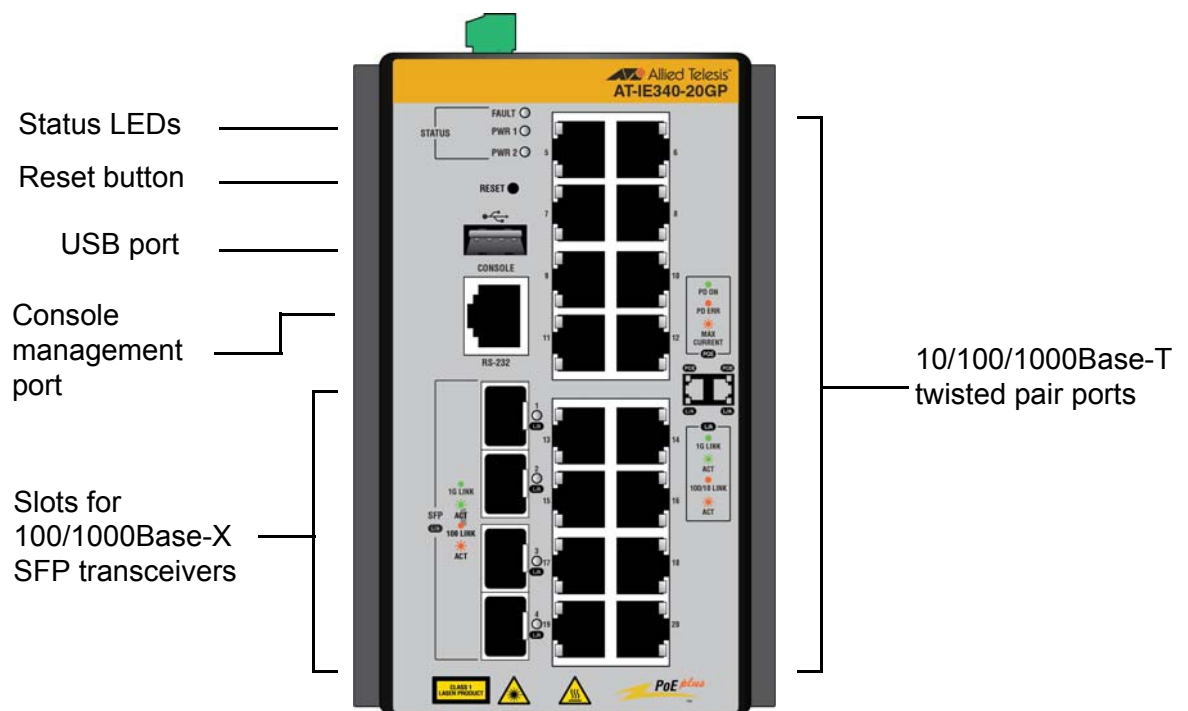

Figure 3. Front Panel of the IE340-20GP Switch
**IE340-20GP** The front panel of the IE340-20GP Switch is shown in Figure 3.